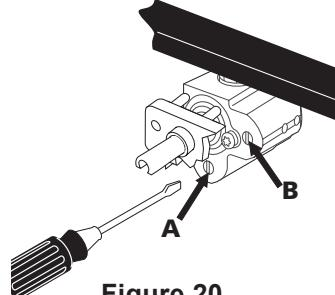

Figure 20
- e. The inner portion (Simmer) of the dual burner flame size or the rear portion of the bridge burner flame size can be increase or decrease with the turn of screw A. Use screw B to adjust flame size of the outer portion of the Dual Burner or the center portion of the Bridge Burner (Figure 20). Turn the screw counterclockwise to increase flame size. Turn clockwise to decrease flame size. Adjust flame size until you can quickly turn the knob from LITE to lowest position without extinguishing the flame. Flame should be as small as possible without going out.